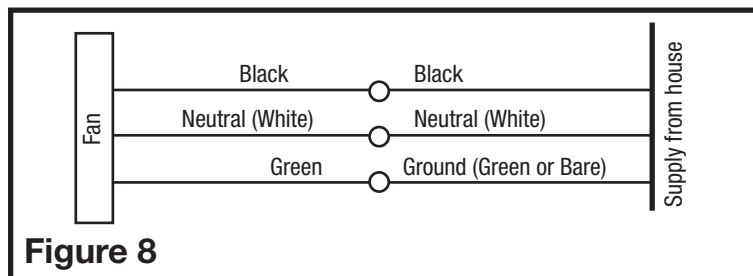

Figure 8
2. Pull the loose black, white and green wires out from the wire compartment (additional wires will be present). Install an approved electrical connector (not included) to the wire compartment cover. Run a black (hot), white (neutral), and a green or bare ground wire from the supply through the electrical connector. Connect all wires from the supply to their corresponding wires within the wire compartment (Figure 8). Use approved methods for all connections.